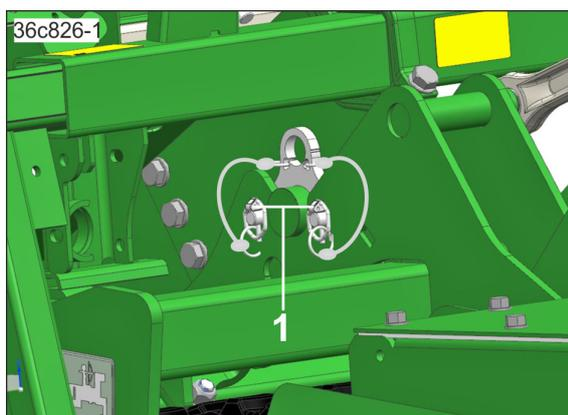

Fig. 129
- Secure the connection with two coupling pieces (Fig. 129/1).
- Position and secure each coupling piece with 2 linch pins (Fig. 129/2).